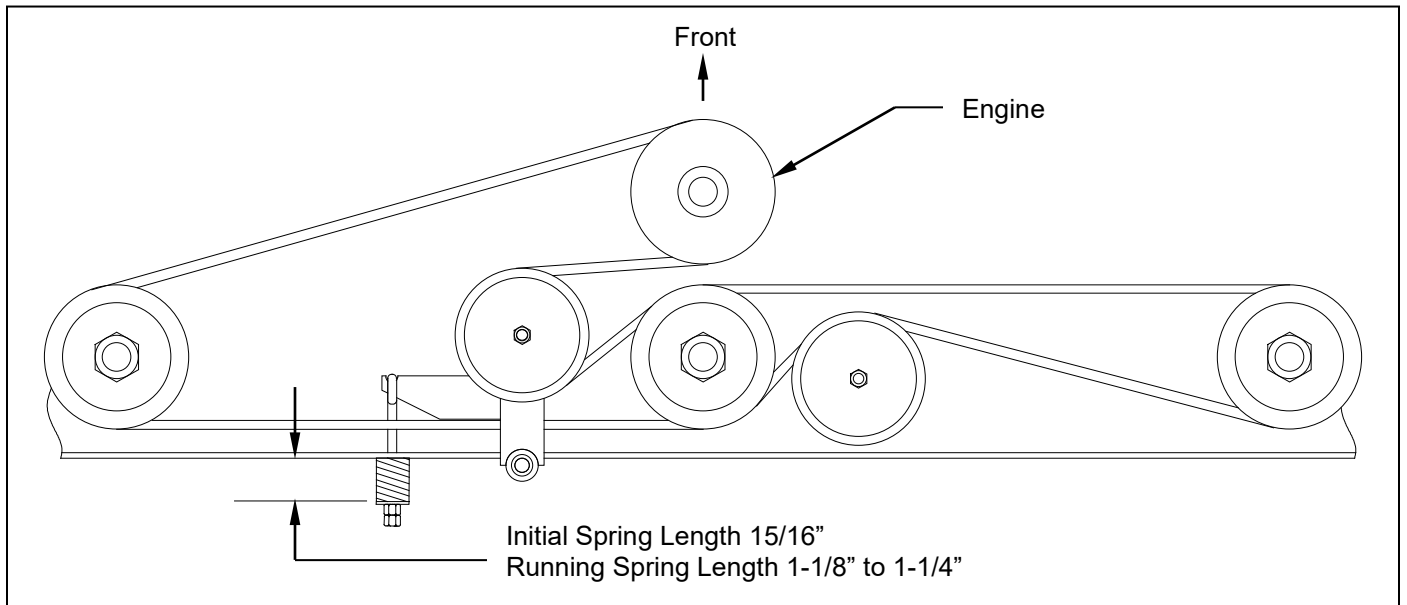

Figure 9: Belt Pattern and Spring Adjustment
G. DRIVE BELT REMOVAL AND TENSION (See *Figure 9*)